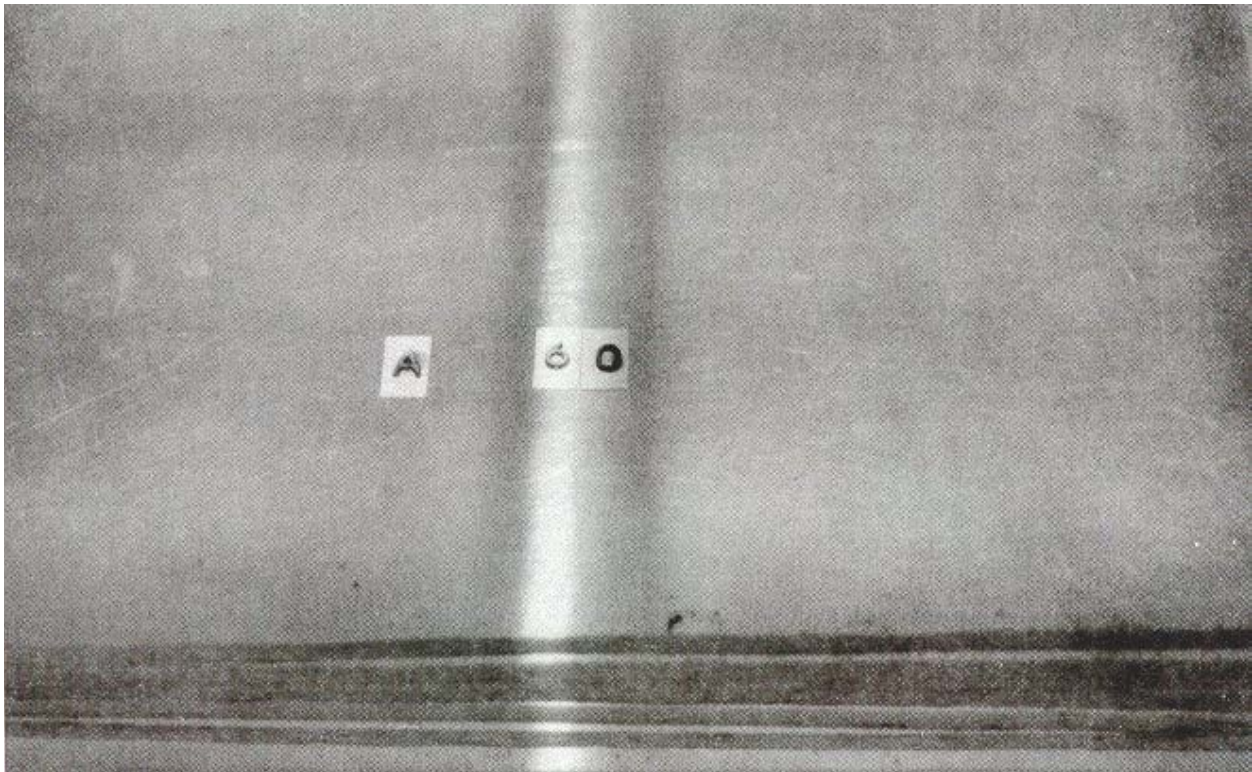

Figure 4-22. Note the "A" identification marker placed on the phantom prior to the first exposure.
c. Place the lead identification number "60" on the top surface of the phantom (see figure 4-22).